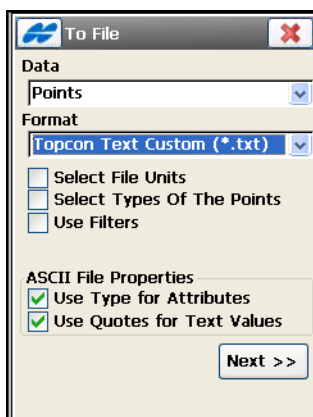

Figure 5-29. To File
2. Check and enable the *ASCII File Properties* field boxes, if necessary (Figure 5-29). These conditions use the same type for the attributes and quotes for the text values.